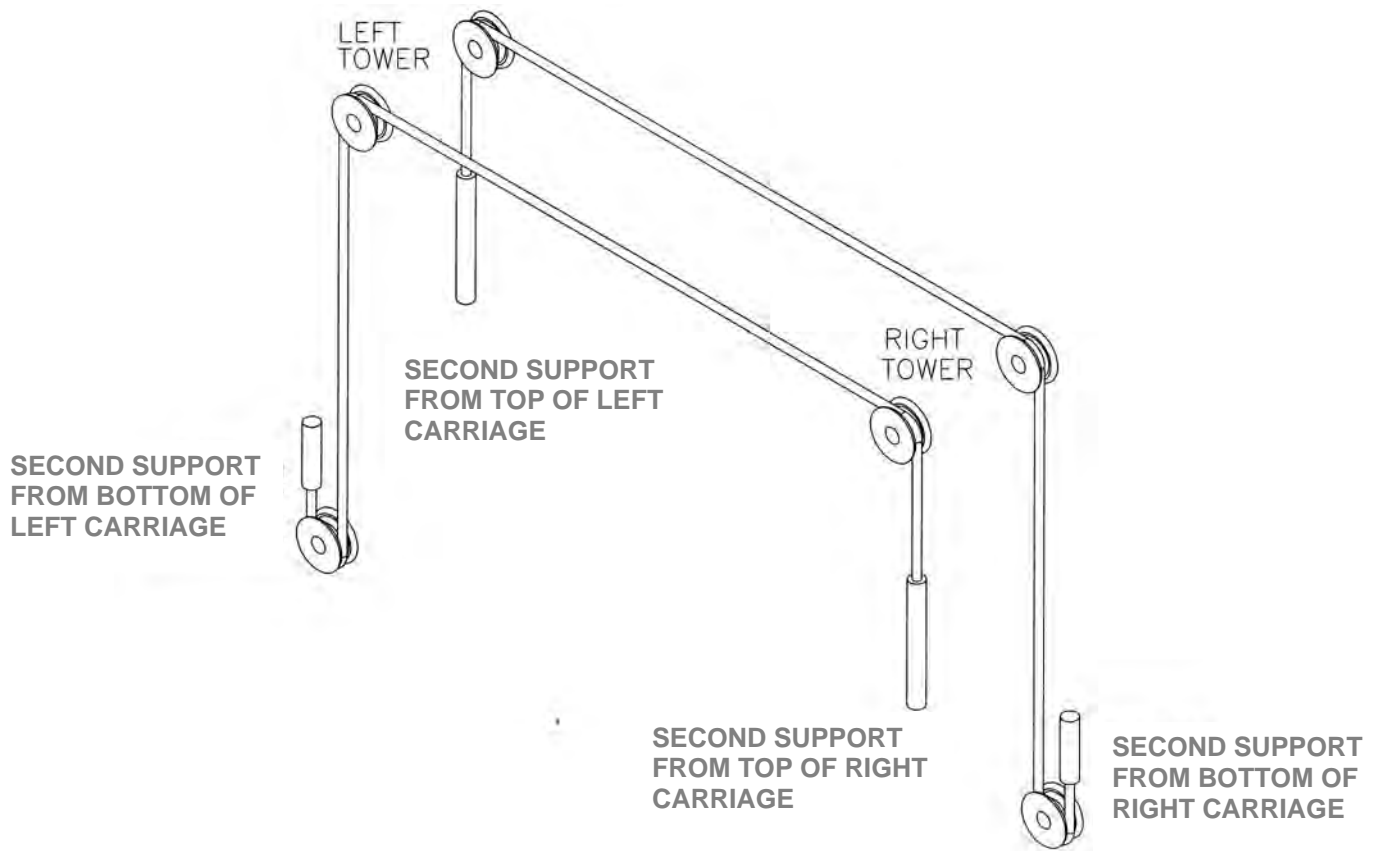

Figure 13: Cable Routing
2. Remove equalizing cables from the accessory kit box, and locate the (8) ½"-13UNC nuts in the hardware kit box.
3. Equalizing cables are to be routed as shown in **Figure 13**.